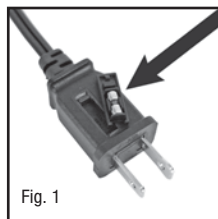
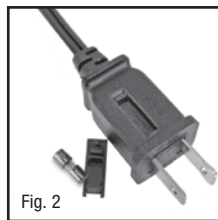

Fig. 1
Fig. 2
2. If your fan loses power and you suspect that the fuse on your fan has blown, you should first remove the spare fuse holder attached to the cord plug (Fig. 1). Remove the spare fuse from the plastic spare fuse holder, and set the spare fuse aside (Fig. 2).
The Turbo Force® High Velocity Air Circulator Fans are aerodynamically designed to give you the versatility of changing this fan's angular direction simply by adjusting the fan to ANY desired angular output (Fig.1). Upon using this fan, you will feel a strong and powerful air stream that will quickly move air to provide a cooling effect.
- To operate, turn the control knob to the desired fan speed: HIGH (III), MEDIUM (II) or LOW (I) (Fig. 2).